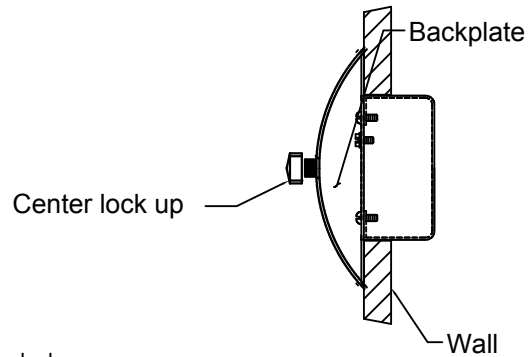

FIGURE-02
5. Attach the fixture to the mounting ring w/ wing and secure it with center lock up (See Figure-02)